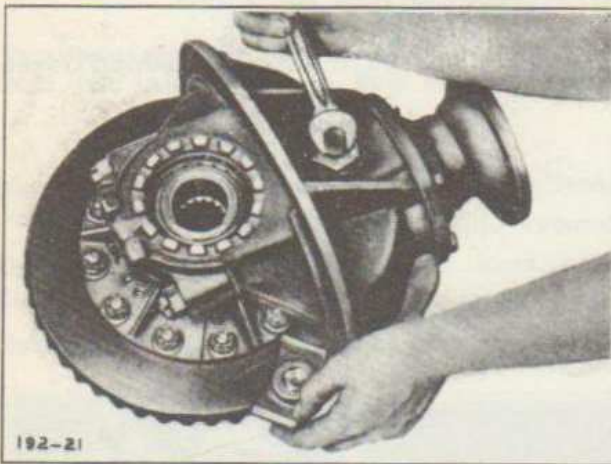

Fig. 14—Removing Ring Gear Thrust Shoe
With axle drive unit out of axle housing (36), back out thrust screw (1), turn ring gear (12) and remove shoe (2). (See Figure 14).